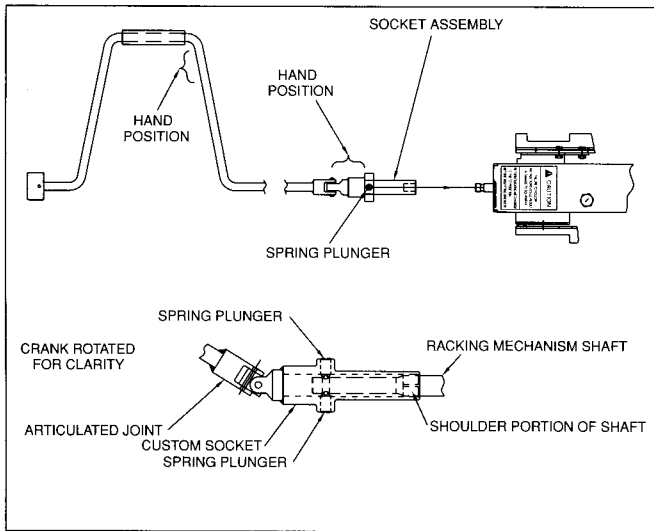

Figure 42. Racking Crank Engagement Procedure
2. Hold the socket end of the crank in one hand and the crank handle in the other hand. Refer to **Figure 42**.